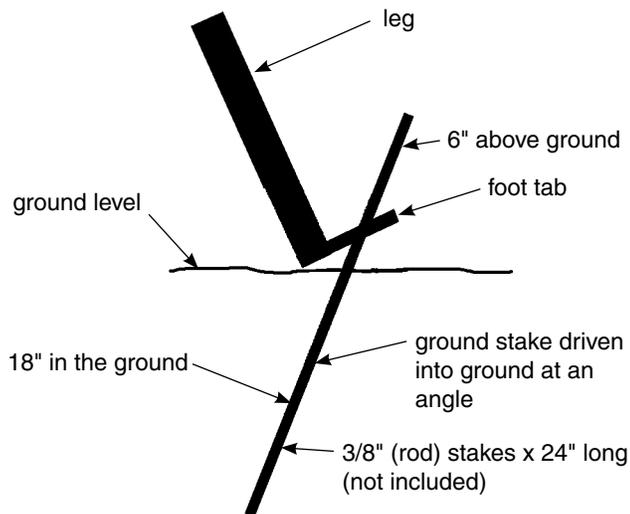

FIGURE 15
4. Drive (4) ground stakes (not included) through the holes in the (4) feet. Stakes should be approximately 24" in length with 18" in ground and should be driven in at an angle. **SEE FIGURE 15.**